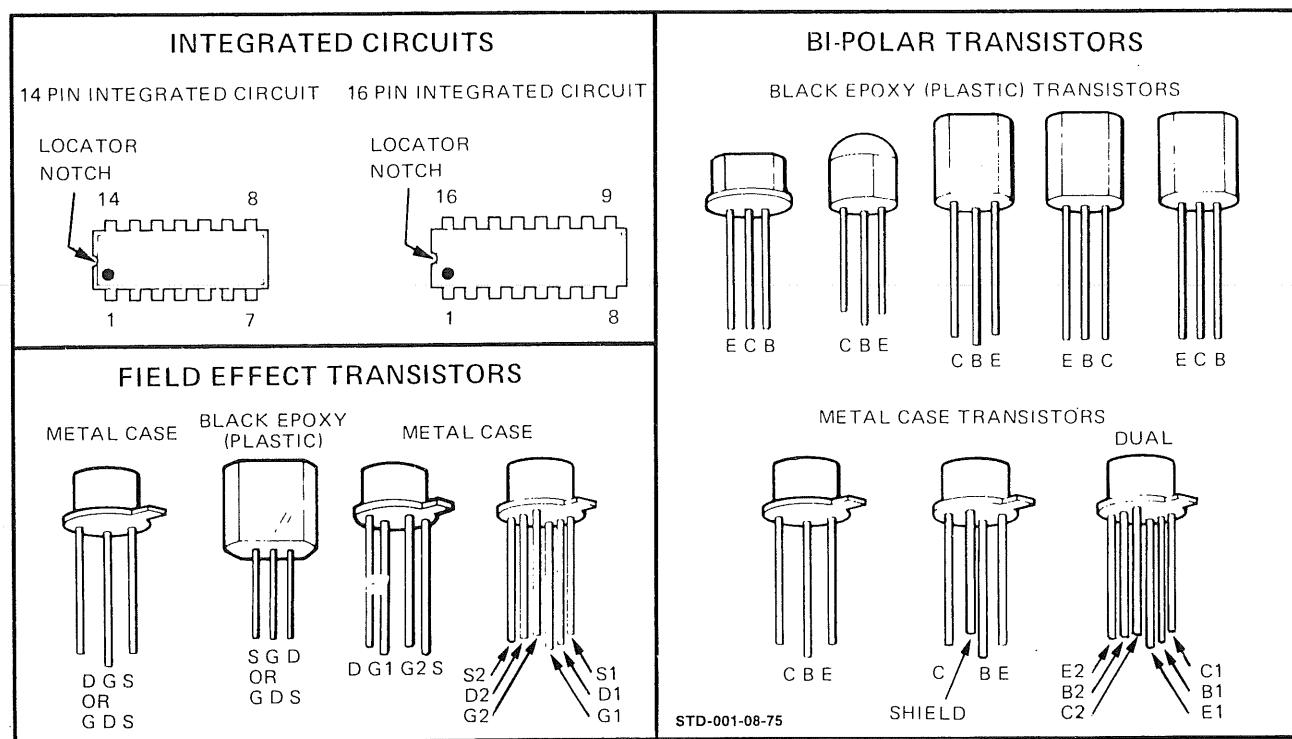

Figure 8-5. Semiconductor Terminal Identification
**8-14. SEMICONDUCTOR REPLACEMENT.** Figure 8-5 is included to help identify the leads in the common shapes and sizes of semiconductor devices. When removing or replacing a semiconductor, use long-nosed pliers as a heat sink between the device and the soldering iron.